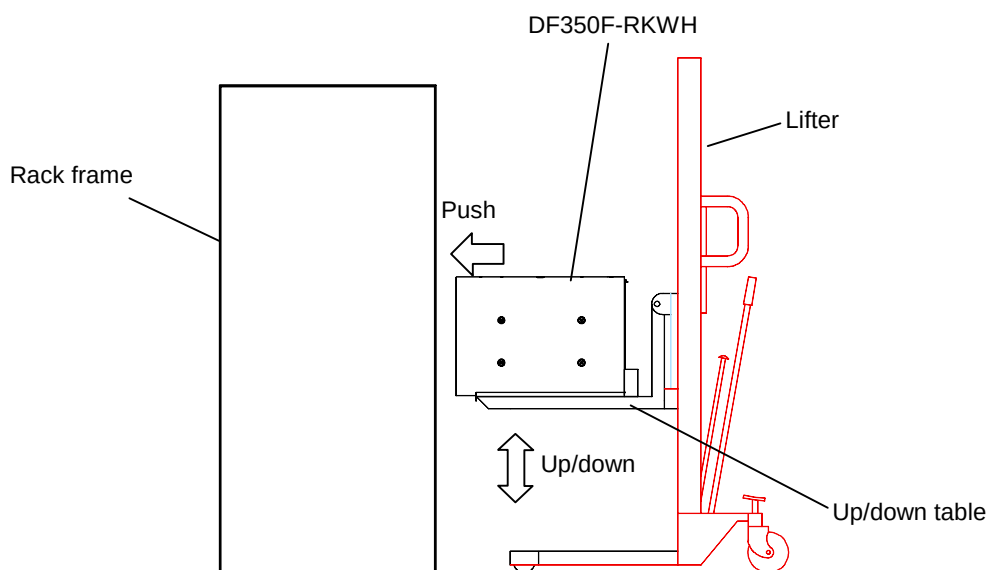

Figure 3.4.6 Install the DF350F-RKWH into the Rack Frame
3.4.5 Install the subsystem into the rack (See Figure 3.4.6.)